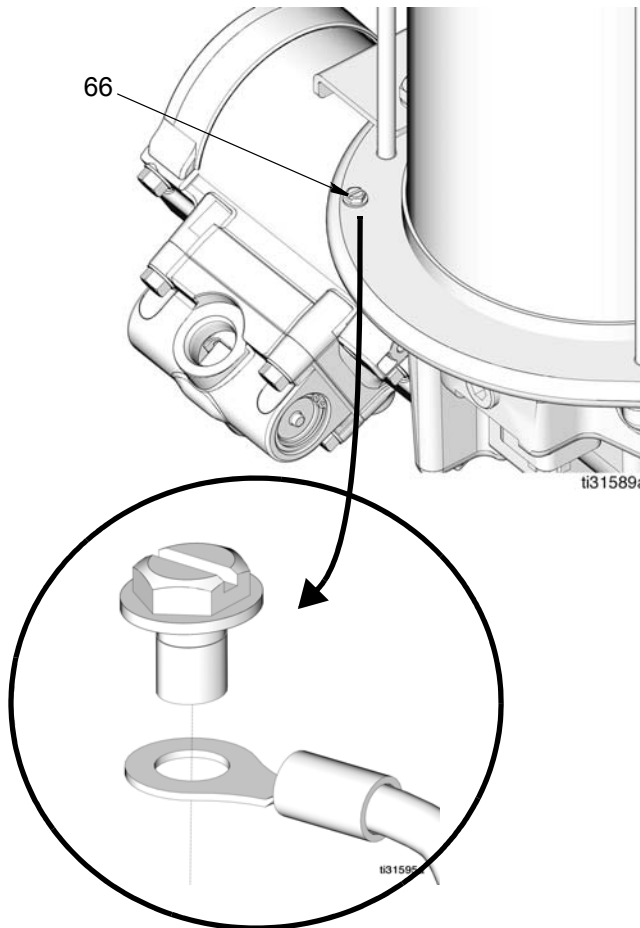

FIG. 3
Secure ground wire to grounding screw (66) as shown in FIG. 3.